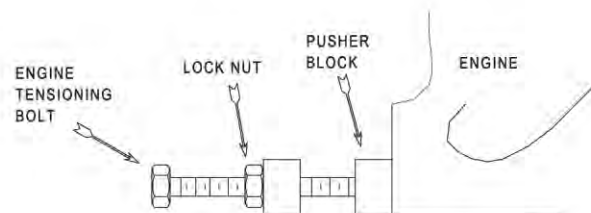

Fig.18: Side view of engine-tensioning bolt
- iv. Loosen the lock nut on the engine-tensioning bolt to achieve proper belt tension. (See Figure 18)
- vii. Once proper tension and alignment are achieved, tighten lock nut on engine-tensioning bolt (see Figure 18). Tighten all engine-mounting hardware.